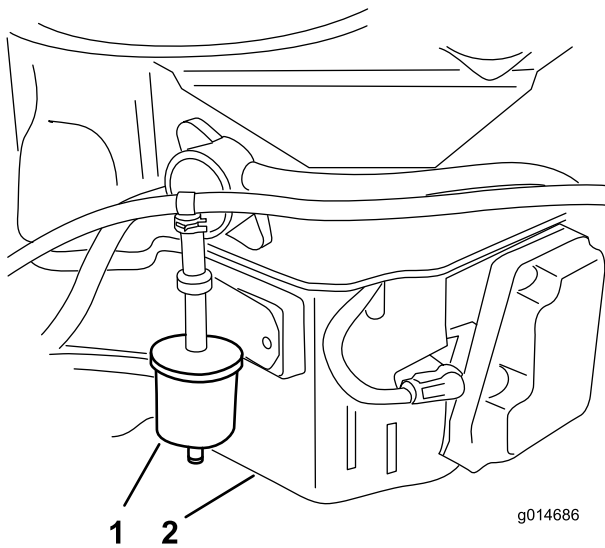

Figure 36
3. Remove the existing fuel vent filter (Figure 36).